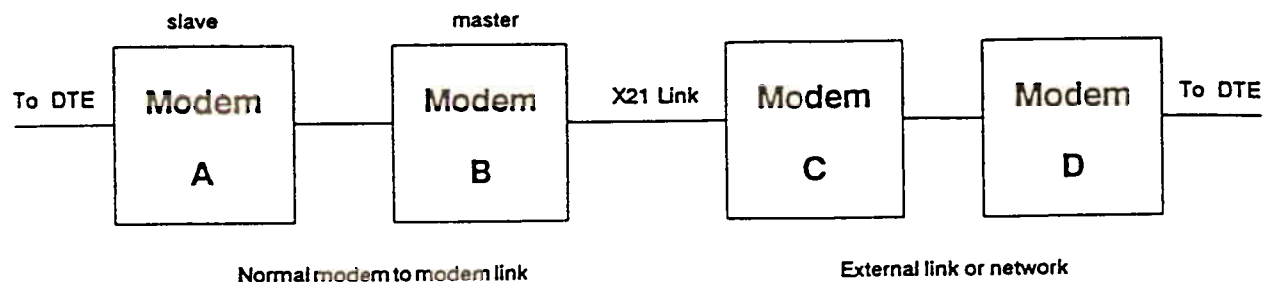

Figure 5.7.3 X21 Loop Control
The concept is shown in figure 5.7.3
If a further link is driven as shown in figure 5.7.3, then the *external* modem (C) must supply a source of timing to the master modem (B). This timing can be of two forms Bit Timing, or Byte Timing.